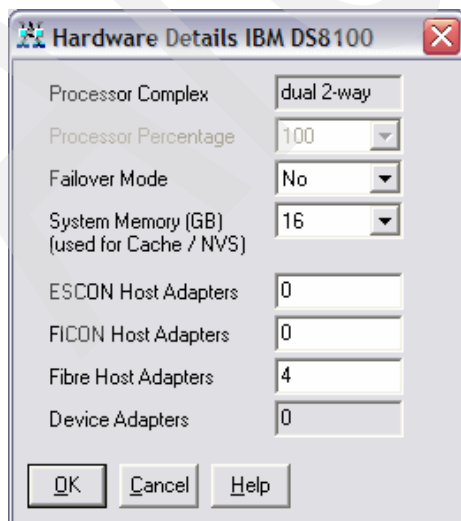

Figure 4-80 Hardware details of planned DS
- b. Click **Hardware Details**. In the Hardware Details IBM DS8100 window (Figure 4-80), enter the values for the planned DS system. In our example, the customer uses four DS FC host ports, so we enter 4 for Fibre Host Adapters. Click **OK**.